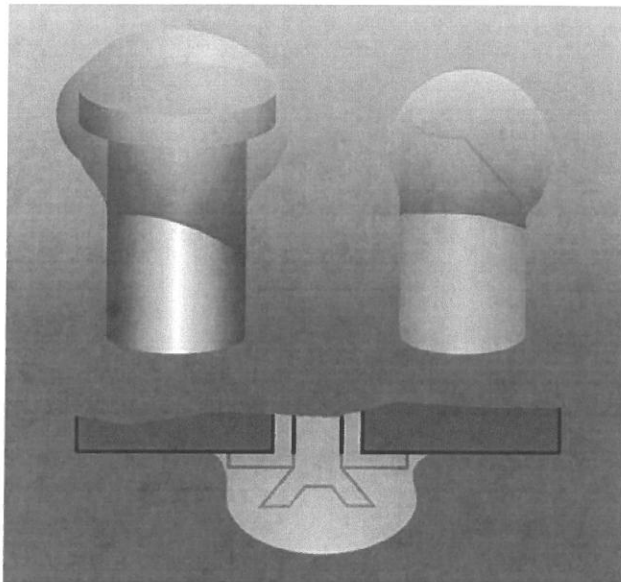

Figure 12-3
- Solder follows contour of terminal and wire wrap but there is evidence of the sharp edge of the terminal protruding, Figure 12-3 (A, B).
- Discernible sharp edges, solder points, icicles, or inclusions (foreign material), Figure 12-3 (A, B).
- Terminal lug is void of solder, Figure 12-3 (C).
- Hardware has burrs or frayed edges, Figure 12-3 (D).
- Insulation clearance (C) is one overall diameter (D) or more, Figure 12-3 (E).